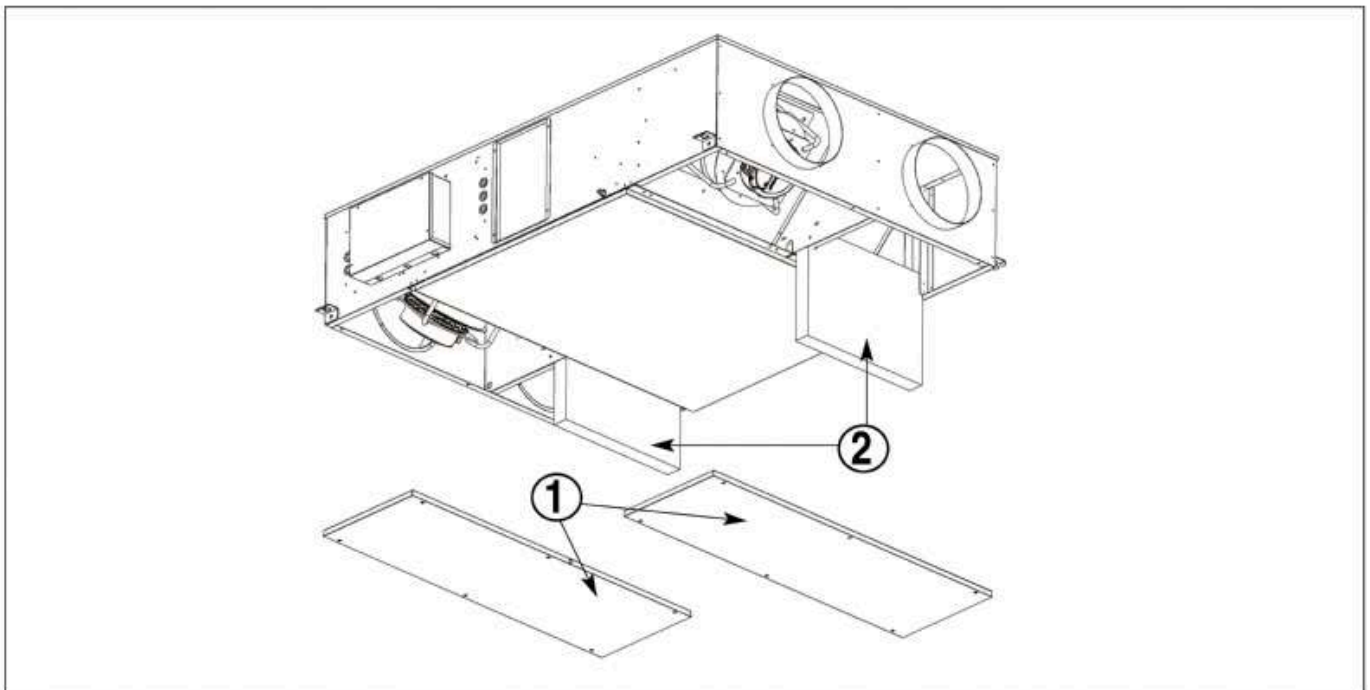

fig. 9
#### 10.2.1 VERIFICA DELLA SEZIONE FILTRANTE (Fig. 9)
#### 10.2.1 CHECK THE FILTERING SECTION (Fig. 9)
Remove the filter (2) as shown on the figure 9. After cleaning repeat the operations in inverse order. For the cleaning use a vacuum cleaner or wash with a common detergent in lukewarm water, leaving to dry out completely.